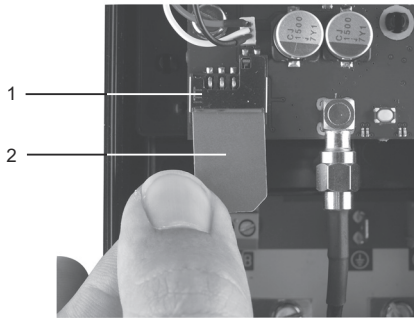

Fig. 11 Inserting the SIM card
3. Insert the SIM card into the CIM 250. See fig. 11.
*The connectors on the SIM card must face inwards towards the CIM 250. See fig. 11.*